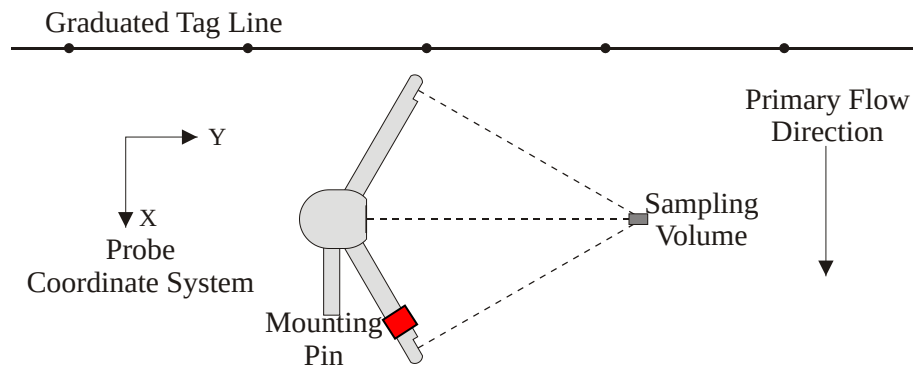

Figure 5:1 – FlowTracker2 Probe Orientation Relative to Stream Flow
- e) During velocity measurements, the probe's X-axis is maintained perpendicular to the tag line (Figure 5:1); the red band (receiver arm #1) should face downstream. Only the X-component of velocity (v_x) is used in the discharge calculation, regardless of the flow direction (flow direction is also measured and recorded).